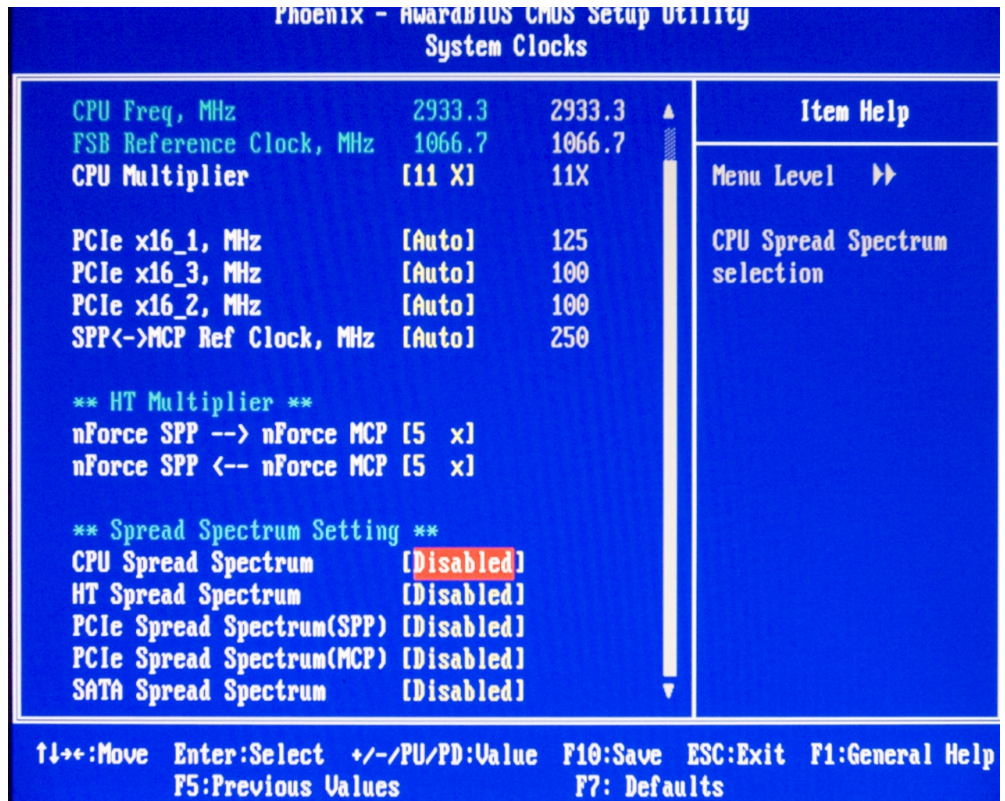

Figure 4. Disable Spread Spectrum
3. Set CPU Spread Spectrum to Disable as shown in Figure 4.
4. Set HT Spread Spectrum to Disable as shown in Figure 4.
5. Set PCIe Spread Spectrum(SPP) to Disable as shown in Figure 4.
6. Set PCIe Spread Spectrum(MCP) to Disable as shown in Figure 4.
7. Set SATA Spread Spectrum to Disable as shown in Figure 4.